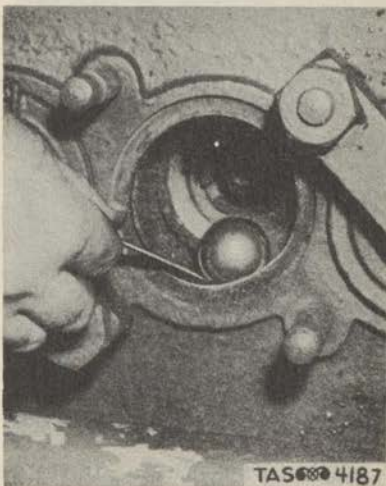

Figure 247. Lifting
(9) Using the special tool inserted through the side cylinder head openings, raise the lower balls. (Fig. 247)
(Fig. 247)